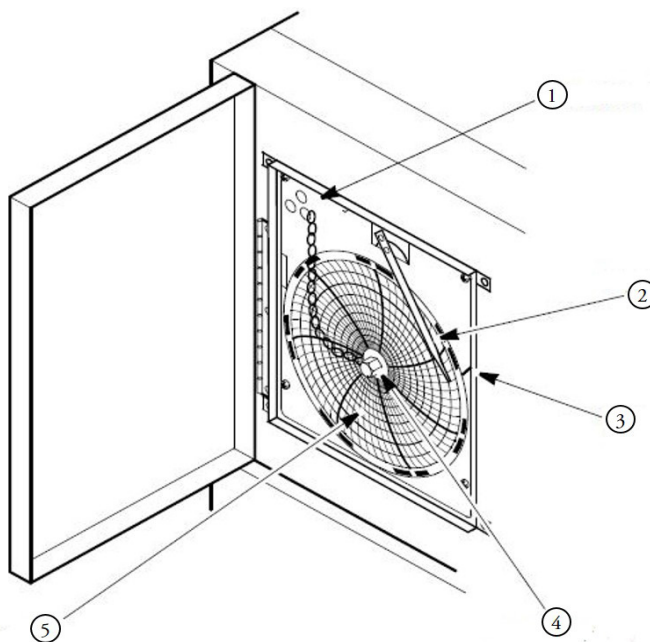

Figure 13. Chart Recorder
3. Unscrew the center nut, remove the old chart paper, and install new chart paper. Carefully align the day and time with the reference mark on the recorder panel (a small groove on the left side of the panel, as shown in *Figure 13*).